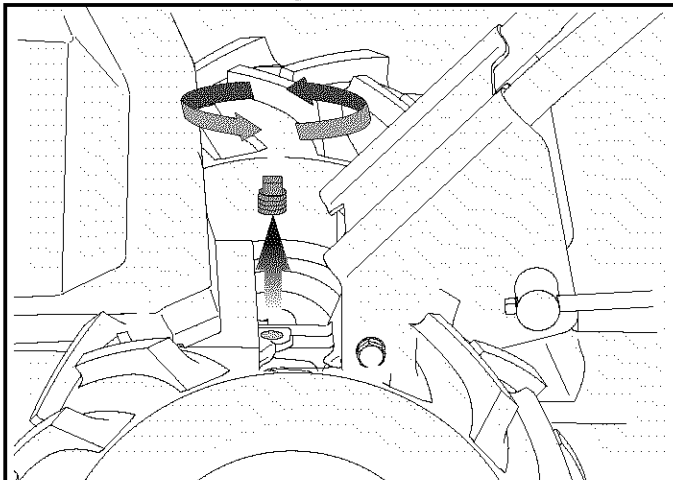

Figure 2
2. Remove the fill plug found on the front of the transmission. See Figure 2.